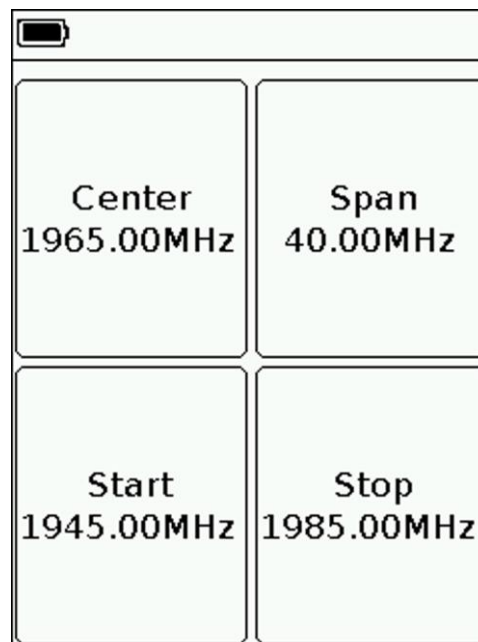

Figure 8.3.1- frequency range setting menu
8.3.1. Enter the main menu of the device and select the «**Frequency**» section. The screen will display a menu for setting the frequency range of the test signal, as shown in figure 8.3.1.